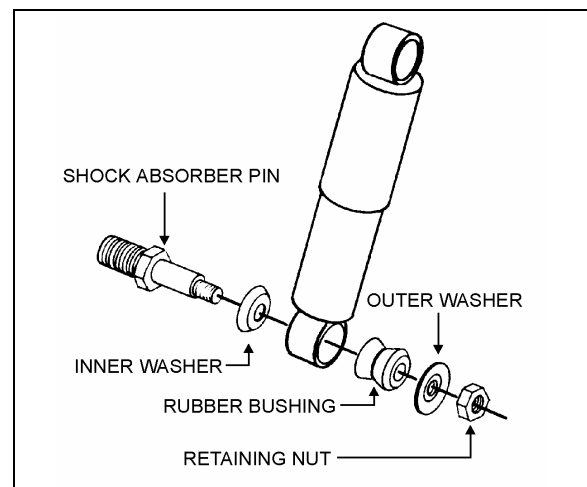

FIGURE 7: SHOCK ABSORBER
1. Remove nuts and washers from shock absorbers on upper and lower mounting pins, taking care to identify the inner and outer washers to ease reinstallation. Refer to figure 7 for details.